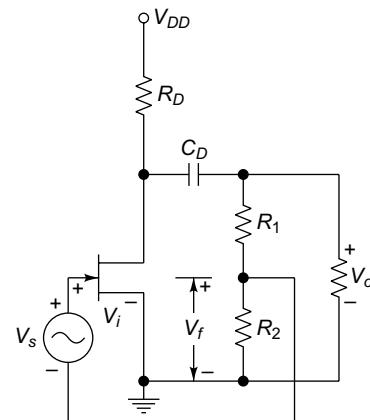

Fig. 2.48
15. Compute the gain with and without feedback for an FET amplifier as shown in Fig. 2.48 for $R_1 = 500 \text{ k}\Omega$, $R_2 = 250 \text{ k}\Omega$, $R_o = 40 \text{ k}\Omega$, $R_D = 8 \text{ k}\Omega$ and $g_m = 1000 \mu\text{s}$